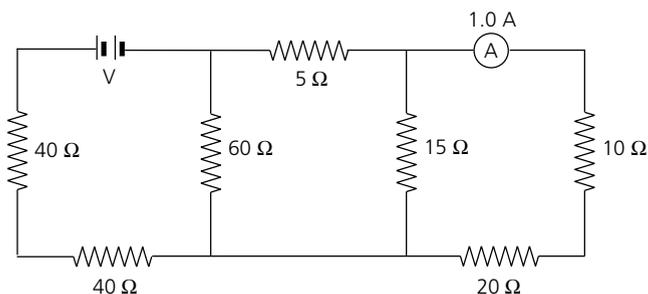

Figure 22.34
- ***38 Figure 22.34 shows a complex circuit. Calculate the following values: